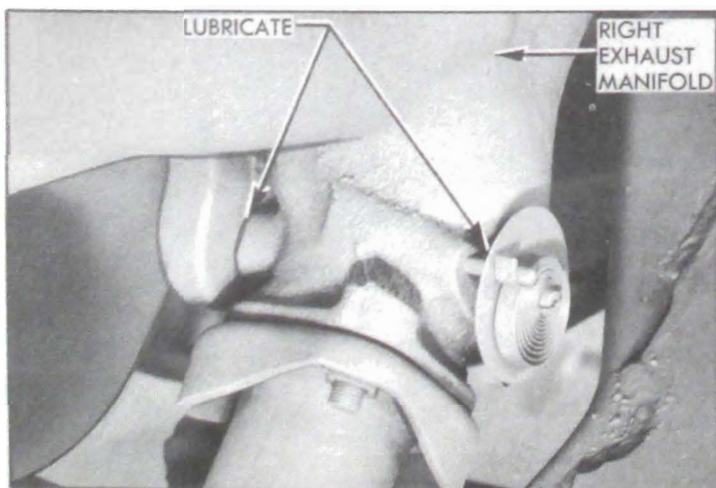

Figure 1-7—Manifold Valve
12. **Manifold Valve Shaft.** Place a few drops of graphited kerosene on shaft at each end and rotate shaft to work lubricant into bearings. See figure 1-7. If shaft is frozen, free up by tapping ends of shaft lightly with hammer.